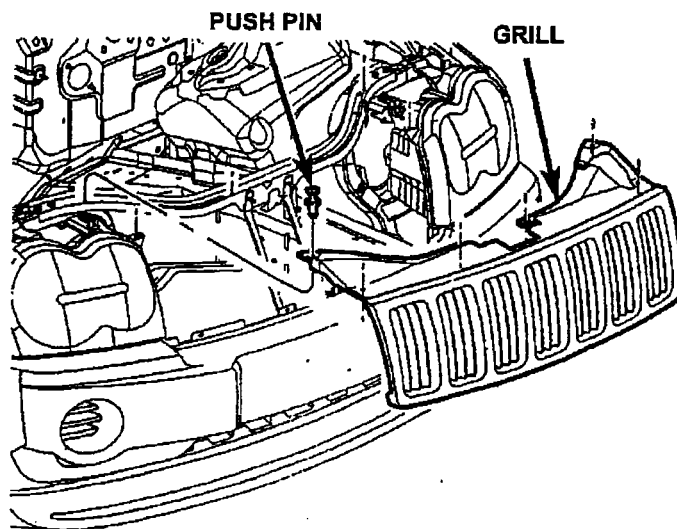

Figure 13
2. Remove and save the six (6) push pins that hold the grill in position and lift the grill from the front fascia (Figure 13).